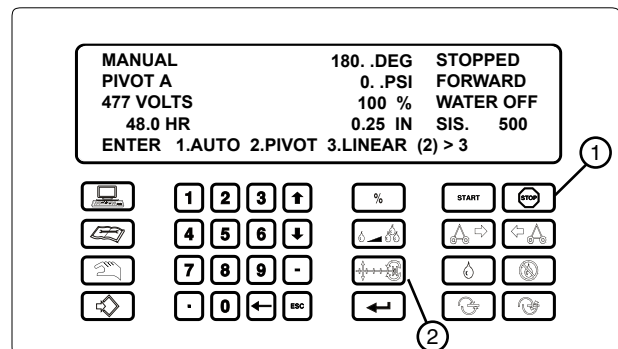

Figure 57-4 1. Stop Key 2. Pivot/Linear Key
- Press  to stop the machine at the end of the pivot zone. See figure 57-4.
- Press  and **3** to return the machine to the linear mode. See figure 57-4.